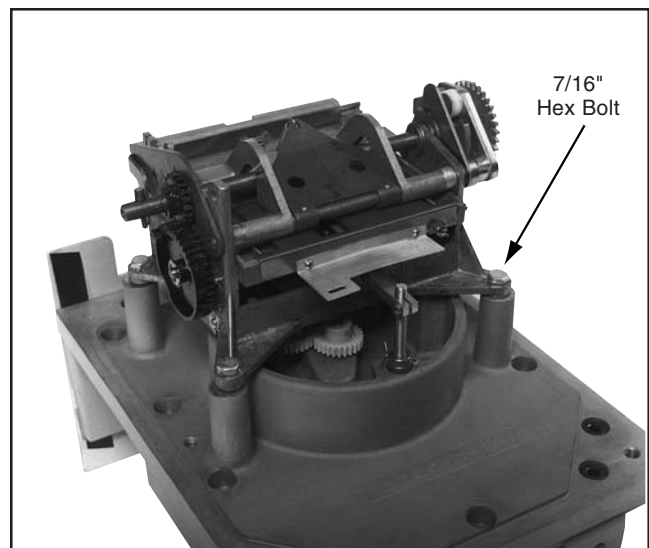

Figure 9 — Printer Head Removal
3. Remove the printer head by first removing the four 7/16" hex head bolts (Figure 9).